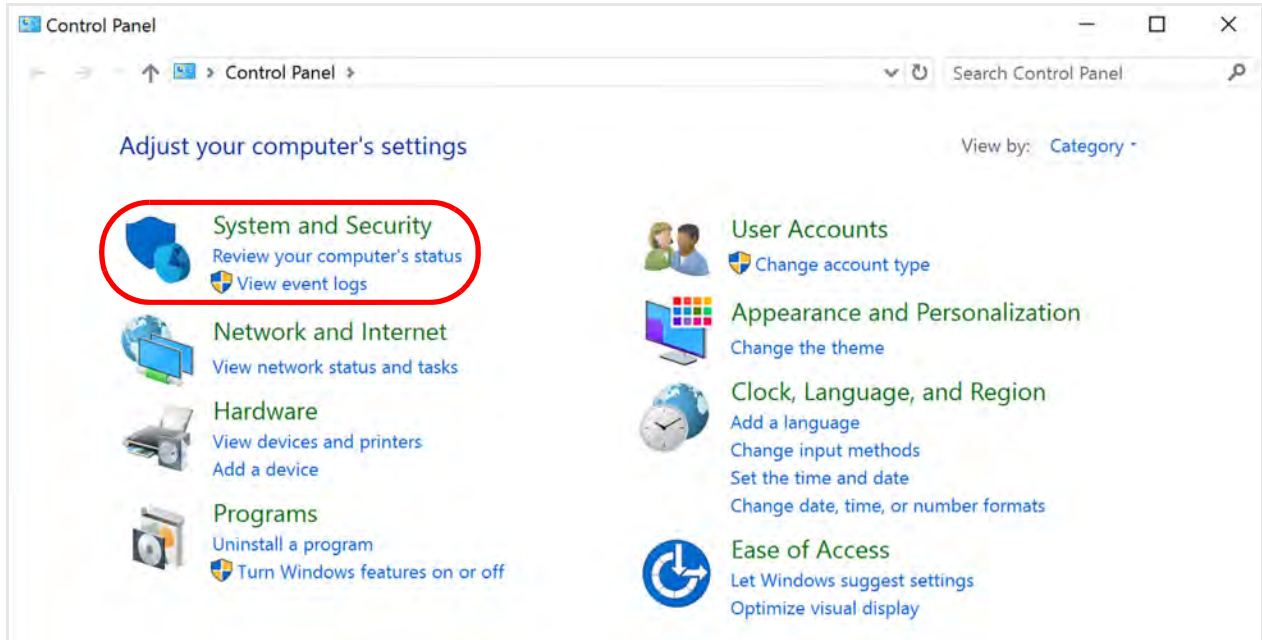

Figure H.2: Control Panel
2. From the Control Panel, select **Systems and Security** (Figure H.2).